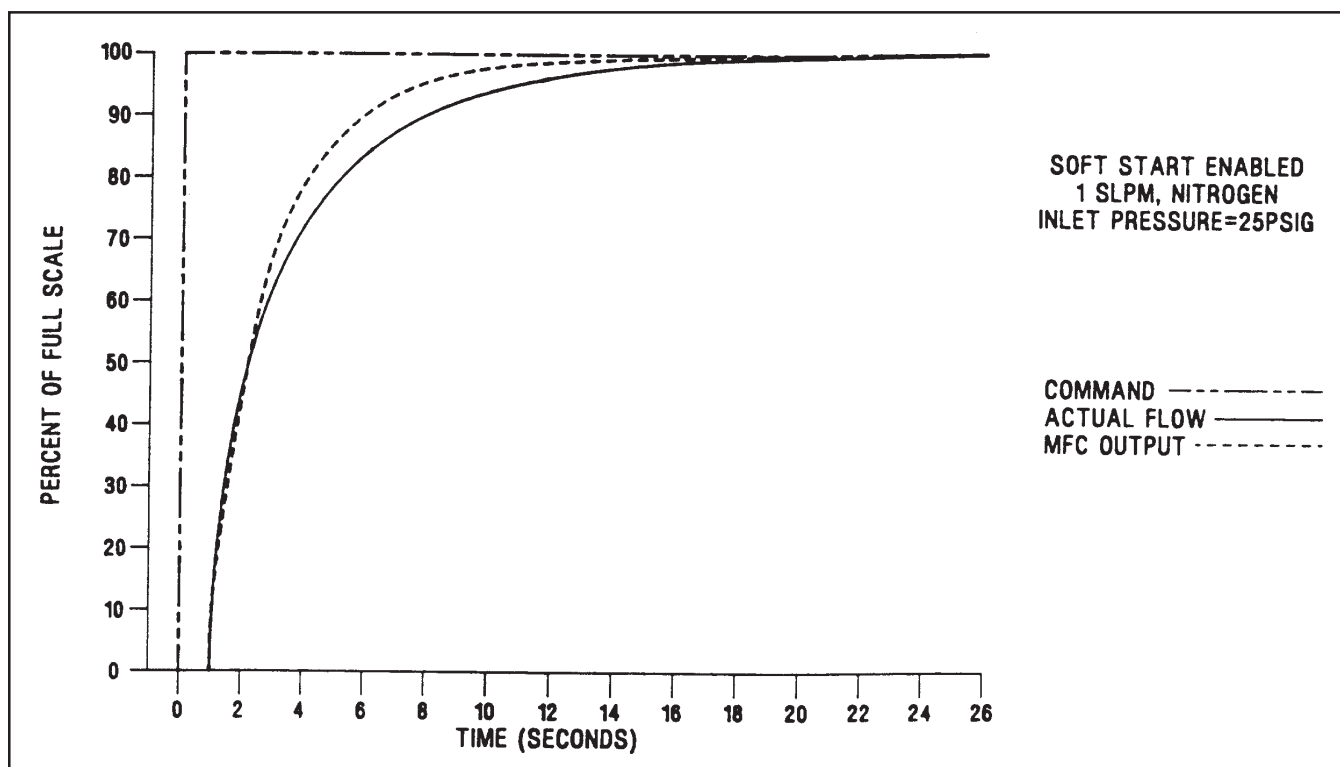

Figure 1-2 0 - 100% Command Step, Soft Start Enabled.
**Soft Start** provides a flow ramping function which slows down the introduction of the process gas for those processes which cannot tolerate rapid flow transition. (Refer to Section 2-6 and Figure 1-2.)